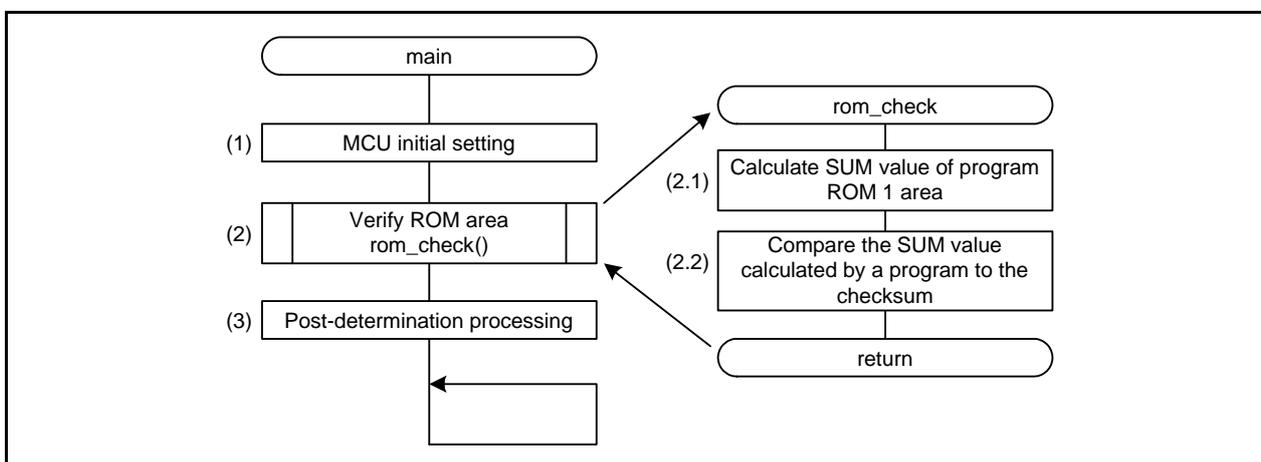

Figure 5.1 Sample Code Operation
In the sample code, steps (1) to (3) of the self-test are performed in order when the MCU starts up. Figure 5.1 shows Sample Code Operation.
- (1) Initialize the MCU after it starts up.
- (2) Verify the ROM area.